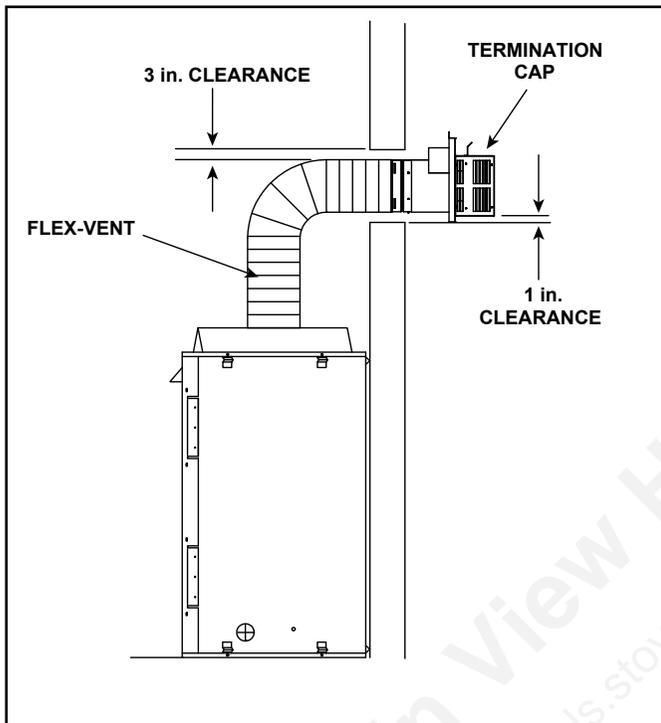

Figure 4.8
- Horizontal terminations are measured to the outside mounting surface (flange of termination cap) (see Figure 4.8).
A support is required at each change in venting direction, and in any location where it is necessary to maintain the necessary clearance to combustibles. A simple “up and out” installation (Figure 4.8) requires only enough support to maintain the necessary clearance to combustibles. However, the vent attachment point and the firestop location are considered to be supports.
**Note:** There MUST be a 25% reduction in total H when using flex vent except when using the simple up and out installation. See Figure 4.8.
**Note:** There **MUST** be a 25% reduction in total H when using flex vent except when using the simple up and out installation. See Figure 4.8.
Note: There **MUST** be a 25% reduction in total H when using flex vent except when using the simple up and out installation. See Figure 4.8.